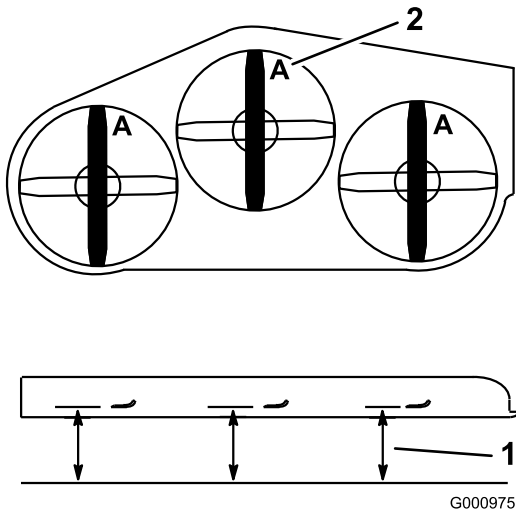

Figure 95
3. Rotate the blades until the ends face forward and backward (Figure 95).
4. Measure from a level surface to the cutting edge, position A, of the blades (Figure 95).